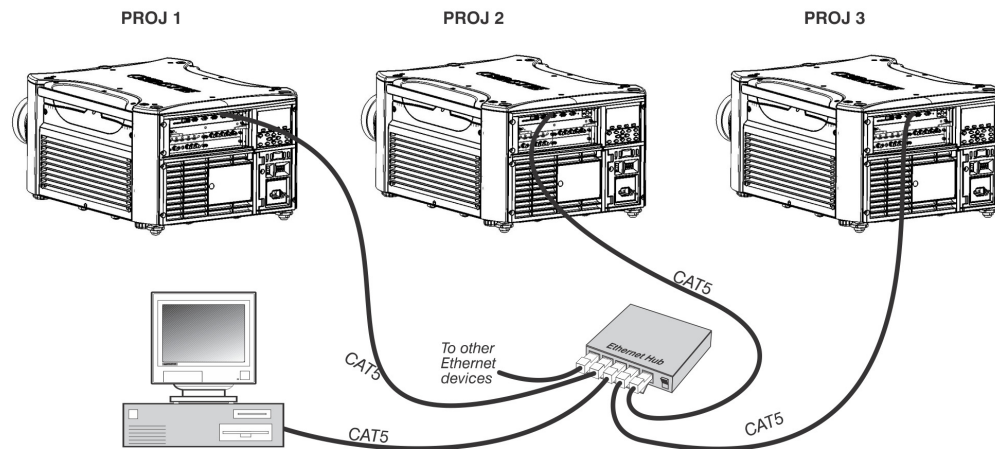

FIGURE 2-42 ETHERNET NETWORK SETUP
**ETHERNET NETWORK SETUP:** To add one or more projectors to an Ethernet network, use standard CAT5 cable to connect each projector ethernet port to a hub belonging to the network. A controller or PC must also be connected to the hub, see Figure 2-42 Ethernet Network Setup. **NOTE:** *A wireless router can be used to communicate to the projectors via 802.11b/g.*